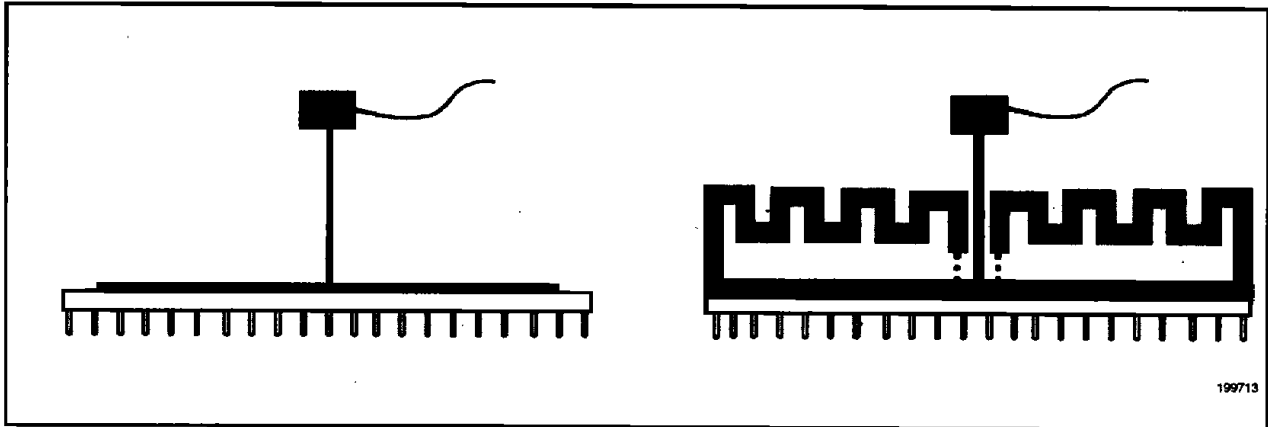

Figure 15. Technique for Measuring  $T_C$ \*
without a heat sink attached. When a heat sink is attached, a hole (smaller than 0.150" diameter) should be drilled through the heat sink to allow probing the center of the package. See Figure 15 for an illustration of how to measure  $T_C$ .
- The thermocouple should be attached at a 90-degree angle as shown in Figure 15.